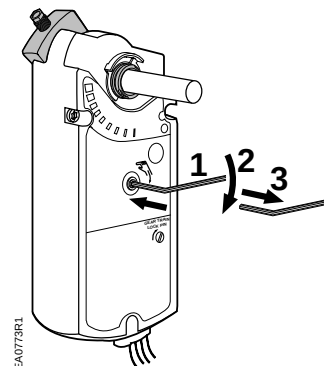

Figure 12. Resetting to "0" Position.
Releasing manual override. See Figure 12.
1. Remove the locking clip and self-adjusting shaft adapter. (*Figure 12, steps 1 and 2*)
3. Rotate the shaft coupling to the desired position. (*Figure 12, step 3*)
4. Insert the shaft adapter into the actuator (*Figure 12, step 4*)
5. Fasten it with the locking clip. (*Figure 12, step 5*)